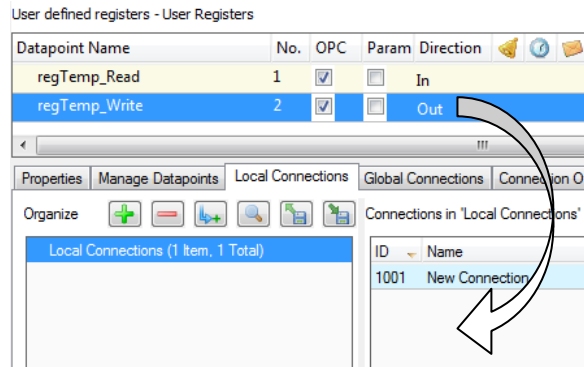

Figure 165: Create a connection with drag-and-drop.
2. In the properties view below the data point list click on the **Local Connections** tab as shown in Figure 165.
3. Then simply drag a data point from the data point list and drop it onto an empty area in the connections list as shown in Figure 165.